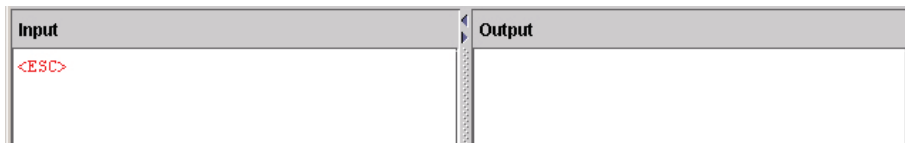

Figure 164 Mnemonics Entry Mode
40. Right-click the Input window and select **View ► Mnemonics**. To enter the Mnemonics entry mode. Notice the 1B changed to <ESC>. See Figure 164.